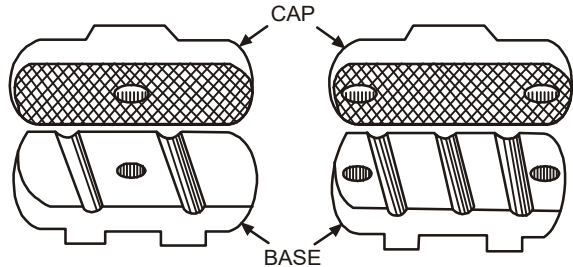

Fig. 6.12: Porcelain cleats
- 1. Cleat Wiring :** In this system of wiring, usually *V.I.R.* or *P.V.C.* conductors are employed. The conductors are supported in porcelain cleats which are placed at least 6 mm above the walls. The porcelain cleats are made of two parts, the lower one is known as base being having two or three grooves for the accommodation of conductors and the upper one is known as cap as shown in Fig. 6.12. The conductors are run in the grooves, cap is placed over the base and the whole assembly is fixed on to the wall with the help of wooden screws and gutties (wooden or *P.V.C.* plugs) already cemented in the wall. The screw not only fixes the cleats on the wall but also tightens the grip of the wires between the two halves of the cleat.